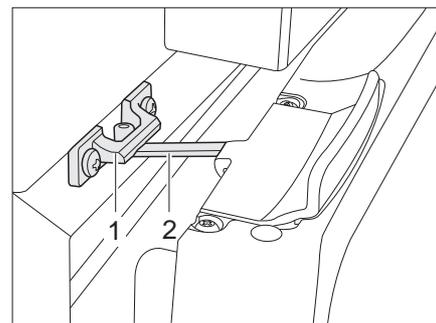

Fig. 148 Refrigerator door in ventilation position (Thetford)
- Open the lock (Fig. 148,2) and snap it into the locking catch (Fig. 148,1). The refrigerator door will then stay slightly open.